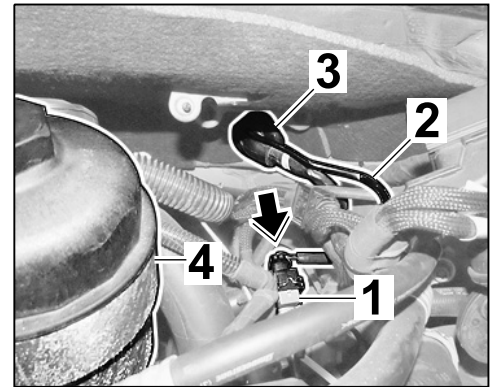

Figure 24
- 4.3 Connect plug connection ⇒ *Figure 24 -arrow-* for change-over valve for sport exhaust system ⇒ *Figure 24 -1-*.
Insert electric wire harness ⇒ *Figure 24 -2-* through the grommet ⇒ *Figure 24 -3-*.